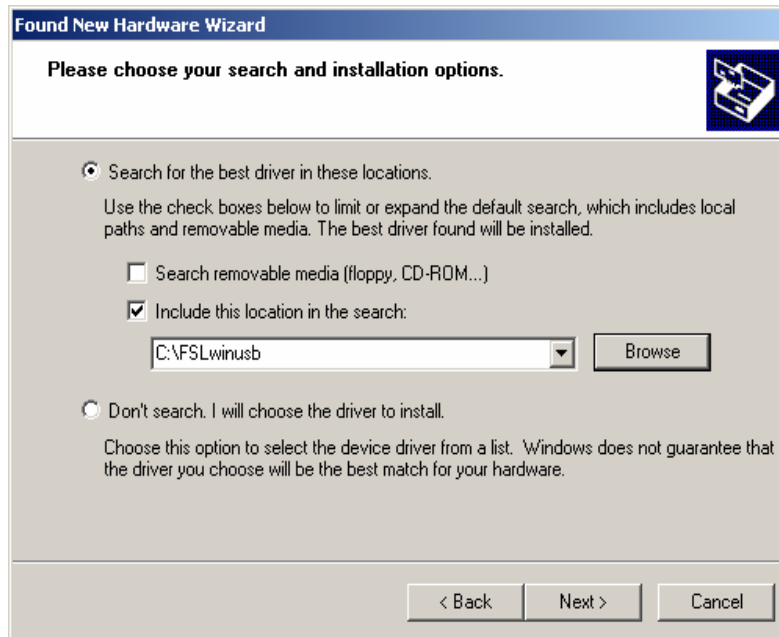

Figure 3. Found New Hardware Wizard - Part 2
10. Select the option, Install from a list or a specific location [Advanced] and click Next. A new default window appears. Click Browse and select the FSLwinusb carpet as shown in Figure 3. Click next.